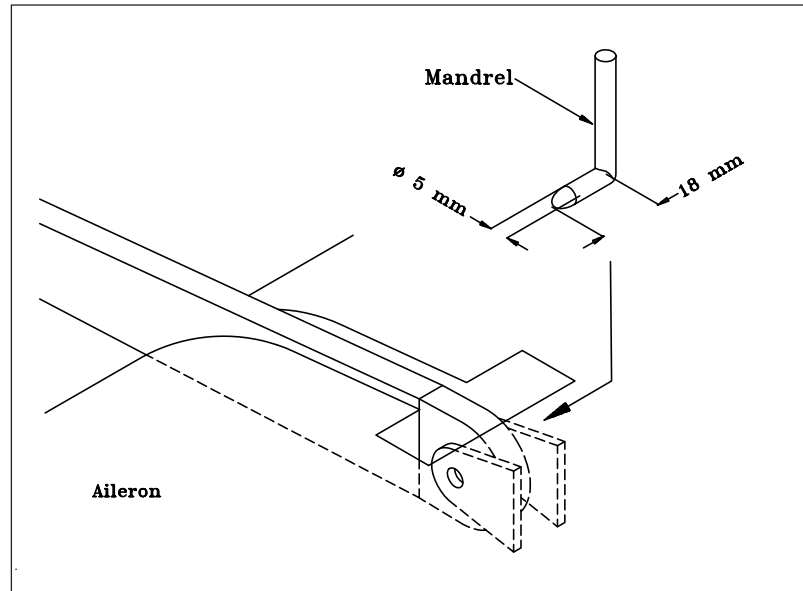

Figure 4 *Control Surface Mounting Aid*
When installing a control surface use mandrels as shown in the following Figure 4 to preset the control surface. Then press out each mandrel by pushing a bolt into the bearing.
- 3 Install in reverse sequence of removal. Observe the second Note of Chapter 27-00-00 and Figure 4.